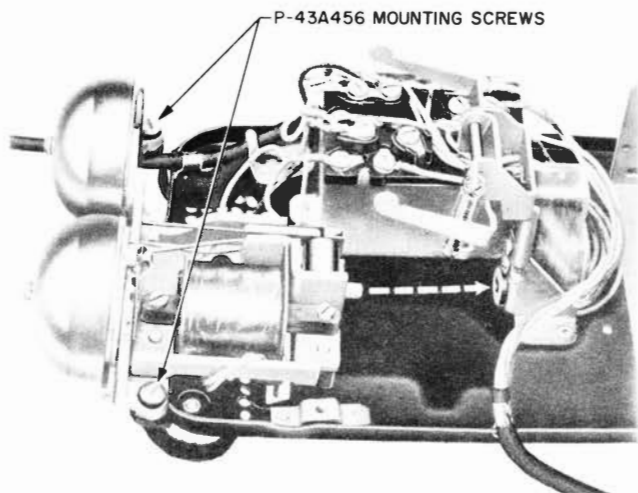

Fig. 33 — 500-type Desk Set, Ringer Assembly
- 4.07 Two mounting screws with lockwashers hold the ringer on base of set (see Fig. 33)